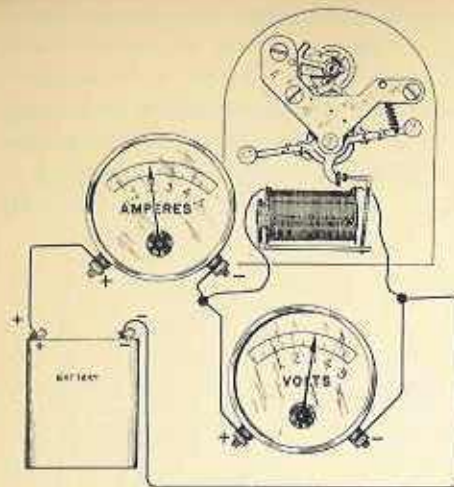

Figure 44
Suppose we suspect the coil of a battery-operated clock to be faulty. We connect our ammeter in series with an electric cell as shown in Figure 44, across the two ends of the coil, and the voltmeter across the winding of the coil. Of course, you must use meters capable of carrying the necessary current. The readings on the ammeter will give you the *intensity* (I), another term for current or amperes; the voltmeter will gauge the *electromotive force* (E), the electrical term for volts. Knowing these two, we can learn the third; *resistance* (R) or ohms.
Figure 44 shows the ammeter, voltmeter method of testing the resistance of a clock coil. A galvanometer arranged in series with a battery and known resistor will supply a reading, as shown in Figure 45. An additional resistor is added in Figure 46. The white on black drawings at the right are the same figures expressed safely in electrical symbols.